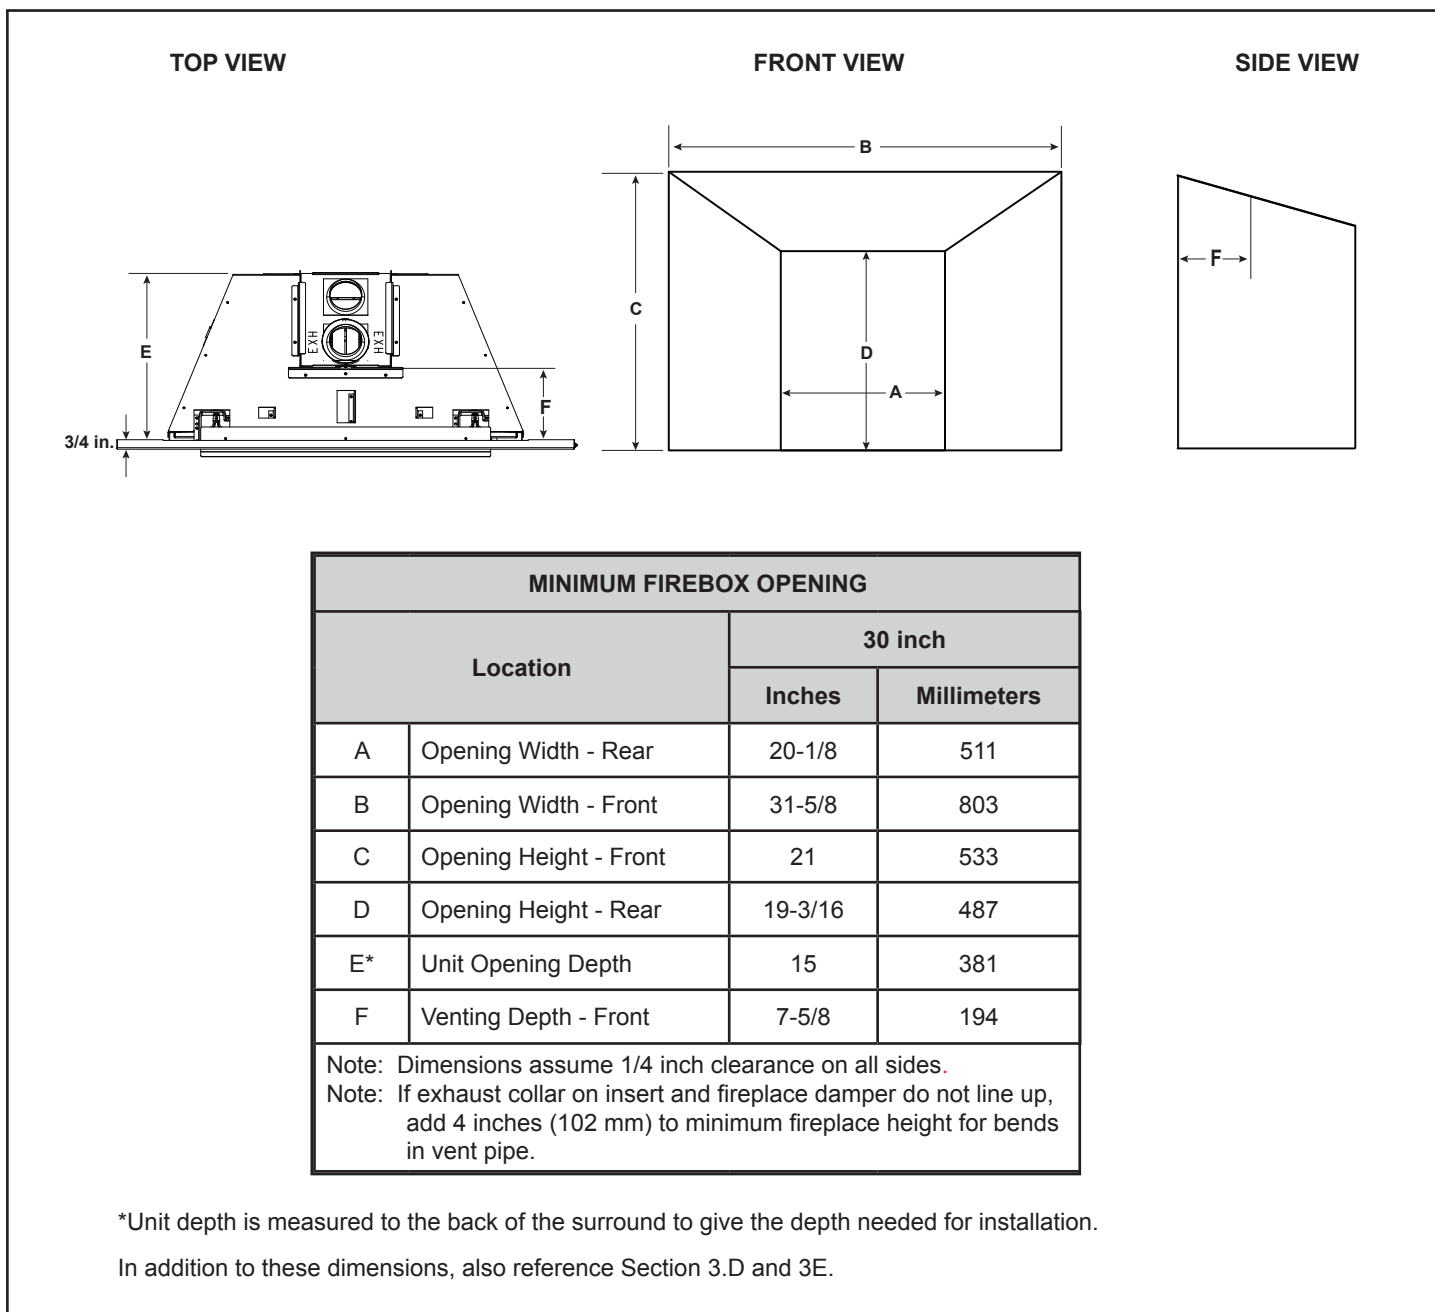

Figure 3.7 Firebox Opening - Standard Surround - 3/4 in.
*Note: Location G is the appliance depth measurement, for installation depth reference Location E on Figure 3.7.
Minimum fireplace opening requirements for a standard 3/4 inch deep surround are shown in Figure 3.7. For smaller openings, a custom surround is available.